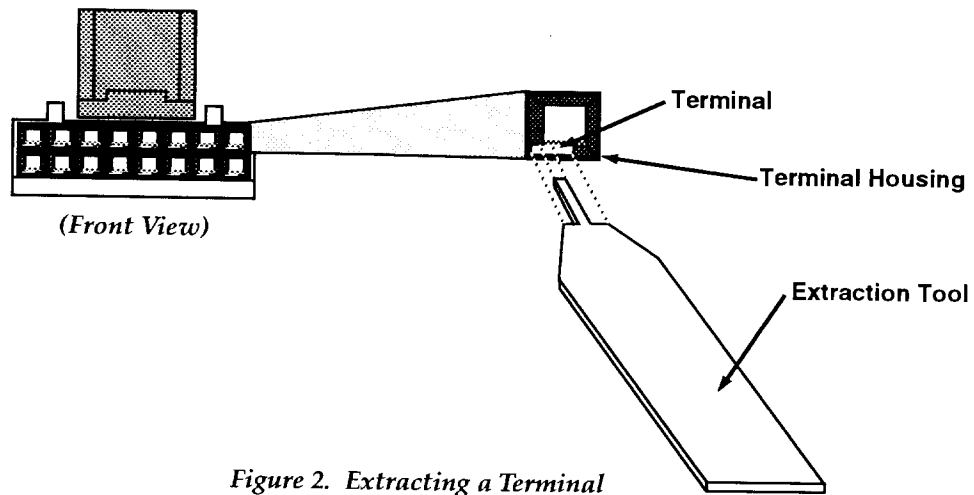

Figure 2. Extracting a Terminal
The extraction tool HLN9491 (shown in Figure 2.) is included in the radio packing carton. To remove a terminal:
1. Insert the extraction tool in the bottom of the opening in the terminal housing at the front (refer to Figure 2.).